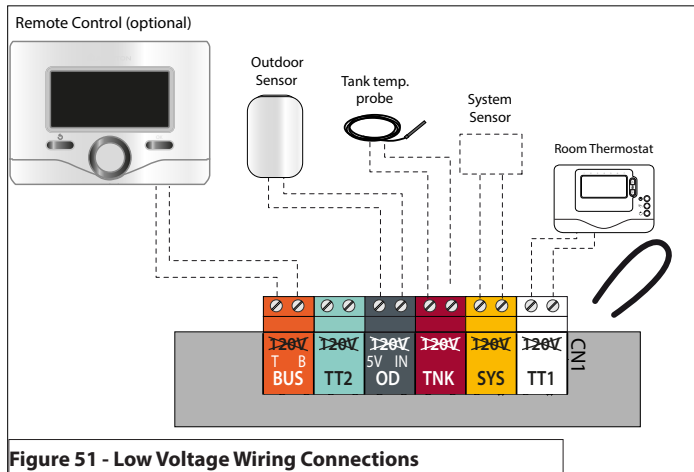

Figure 51 - Low Voltage Wiring Connections
3. Connect the room thermostat wires to the terminals indicated in Table 19 and Figure 51.